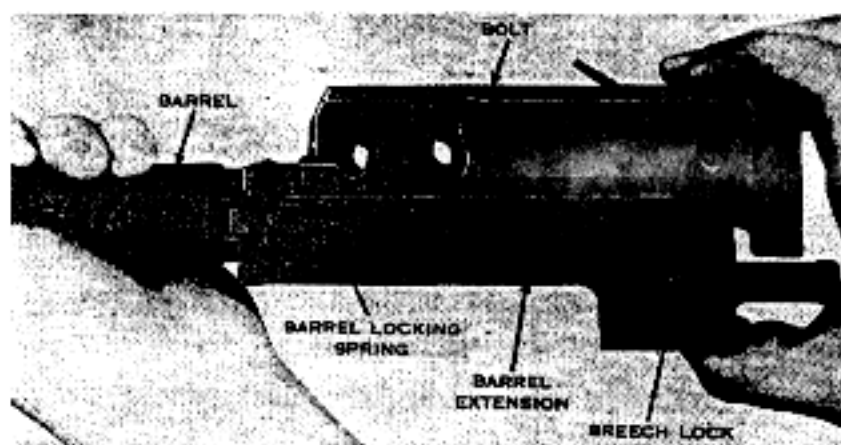

Figure 31. Locking the bolt to the barrel and barrel extension.
- (4) Lock the bolt to the barrel and barrel extension by pushing the breech lock fully into its recess in the bottom of the bolt. Hold it firmly in that position with the thumb (fig. 31). Screw the barrel and barrel extension